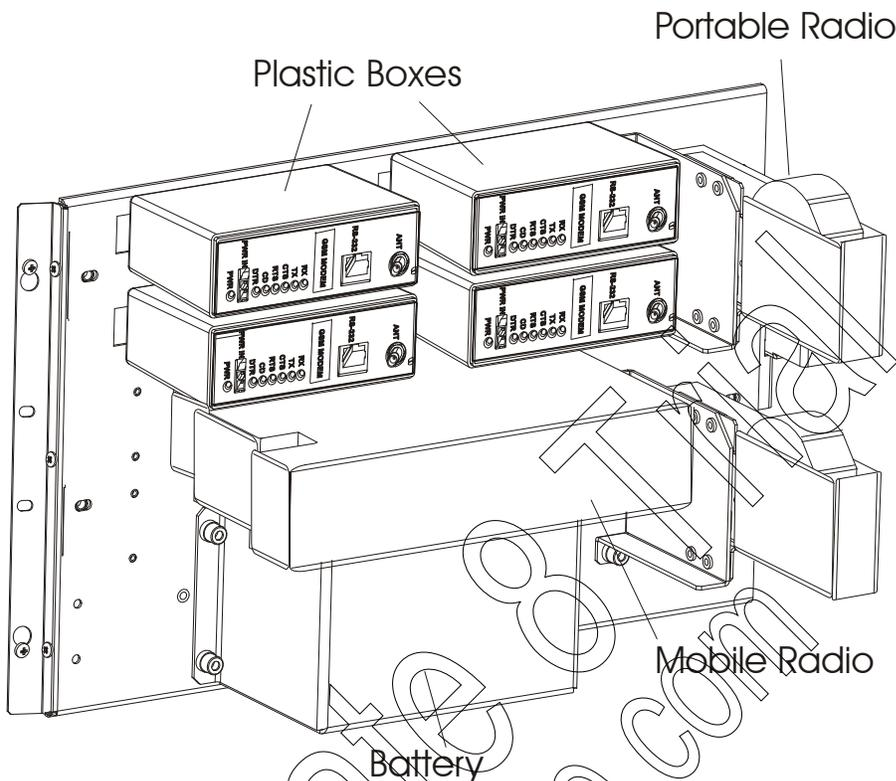

Figure 2-27 Accessories Installed on a Metal Chassis
- 1) To connect the plastic box interface to the metal chassis, place the box on the metal plate and click the two pegs on the back of the plastic box into the desired holes on the metal chassis. See Figure 2-27.